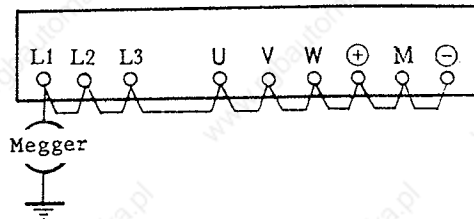

Figure 7-1 Terminal Connection for Insulation Resistance and Withstand Voltage Tests
To conduct insulation resistance and withstand voltage tests, connect the terminals as shown in Figure 7-1 and perform measurements under the following conditions:
- Measure the resistance between a terminal and the ground with a 500 VDC megger as shown in Figure 7-1. Confirm that the inverter withstands 5 MΩ or more.
- Apply 1500 VAC (200 V class), and 2000 VAC (400 V class) between a terminal and ground for one minute as shown in Figure 7-1. Confirm that there is no abnormality.
- Do not perform insulation resistance and withstand voltage tests for the terminals not shown in Figure 7-1 such as printed circuit board.